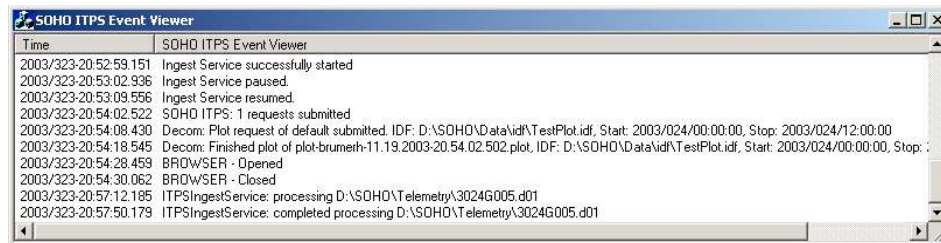

Figure 3: ITPS Event Viewer Window
- Click the “Event Viewer...”. This will activate the Event Viewer window (see Figure 3).